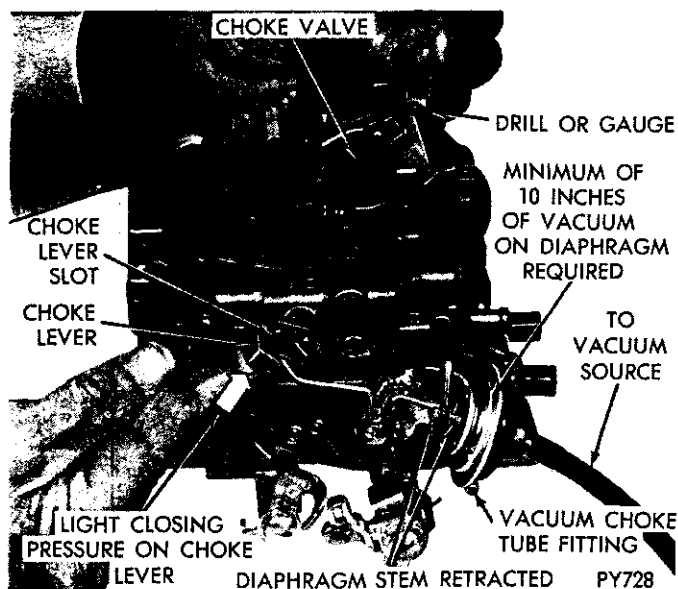

Fig. 14—Checking Choke Vacuum Kick Setting
(2) When using an auxiliary vacuum source, disconnect vacuum hose from carburetor and connect it to hose from vacuum supply with a small length of tube to act as a fitting. Removal of hose from diaphragm may require forces which damage the system. Apply a vacuum of 10 or more inches.
(3) Insert specified drill (refer to Specifications) between choke valve and wall of air horn. (Fig. 14). Apply sufficient closing pressure on lever to which choke rod attaches to provide a minimum choke valve opening without distortion of diaphragm link. Note that on most units, a cylindrical stem extends as an internal spring is compressed. This spring must be fully compressed for proper measurement of vacuum kick adjustment.
(4) An adjustment will be necessary if a slight drag is not obtained as drill is being removed. Shorten or lengthen diaphragm link to obtain correct choke opening. Length changes should be made by carefully opening or closing the bend provided in diaphragm link. **CAUTION: DO NOT APPLY TWISTING OR BENDING FORCE TO DIAPHRAGM.**
(5) Reinstall vacuum hose on correct carburetor fitting. Return fast idle linkage to its original condition if disturbed as suggested in step no. 1.
(6) Make following check. With no vacuum applied to diaphragm. **CHOKE VALVE SHOULD MOVE FREELY** between open and closed positions. If movement is not free, examine linkage for misalignment or interferences caused by bending operation. Repeat adjustment if necessary to provide proper link operation.